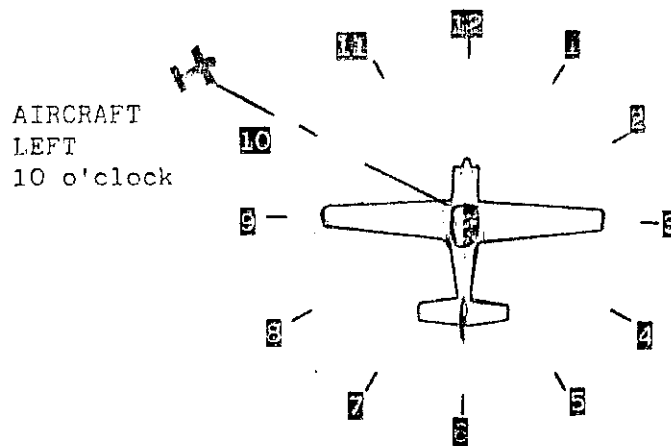

Fig 6.9 The clock code
18. Your instructor will show you how to develop a lookout technique and will demonstrate the clock code system of reporting aircraft. This system envisages your aircraft superimposed on an outside clock face, as in (Fig 6.9). Other aircraft are then reported according to where they lie on the clock face, and whether they are high, low, or level relative to you.